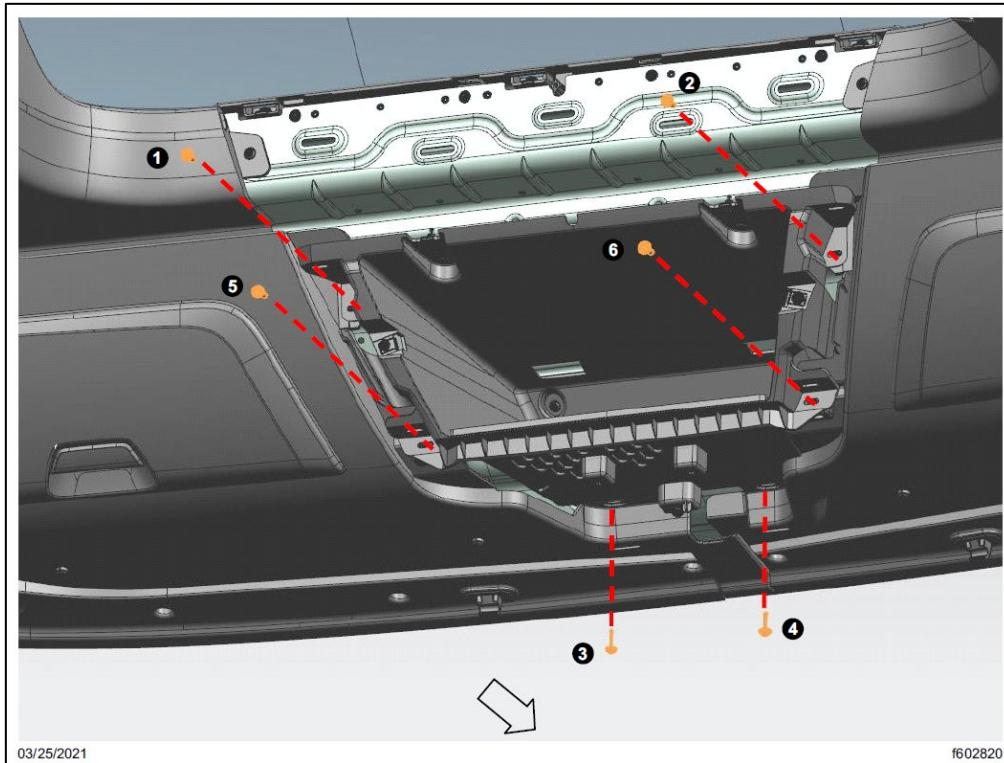

Fig. 63, Attach the Center Overhead Storage Bin to the LH and RH side Storage Cabinets
14.2. Install the six fasteners that attach the center overhead storage bin to the LH side and RH side overhead storage assemblies. Tighten the fasteners 5 to 7 lbf.ft (6 to 9 N.m) as per the sequence shown in Fig. 63.